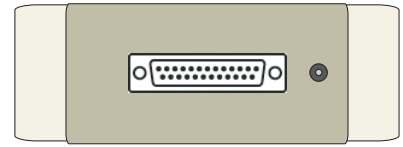

FIG. 2
- 5.- Adjust the display contrast by turning the Contrast Adjustment pot (See fig.2) CW or CCW until the desired contrast is obtained.